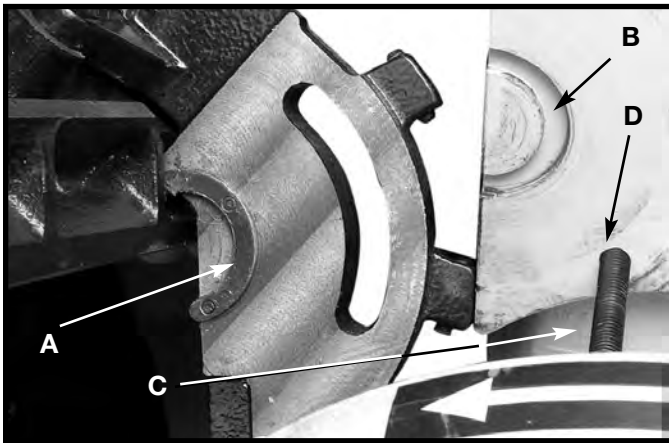
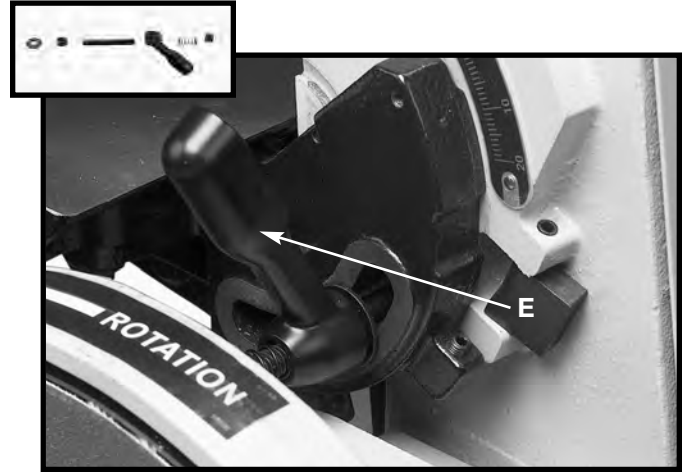

Fig. 14
Fig. 15
1. Insert the trunnion key (A) Fig. 14 into the slot on the side of the sanding arm (B).
2. Thread the stud (C) into the hole (D) on the side of the sanding arm.
3. Attach the washer, nut, lever, spring, and locknut (Inset - Fig 15)
4. Tighten the lever (E) Fig.15.